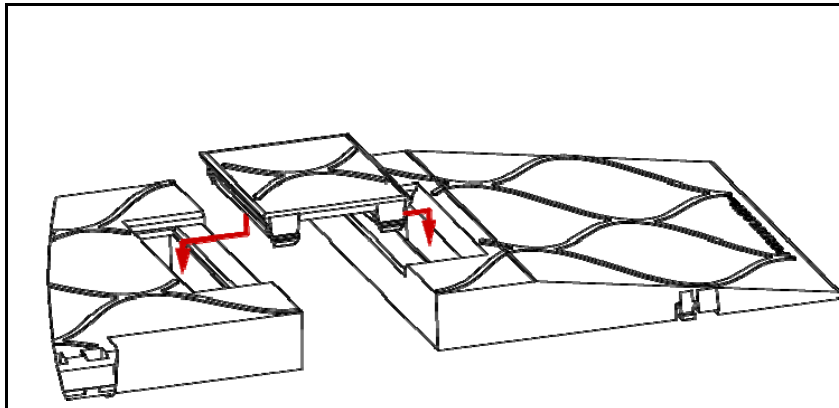

Figure 7. Short Edge Ramp with Adaptor
2. To install ramp edges with adaptors, align the flooring and ramp edge. Press on the adaptor to lock it onto the ramp edge and flooring (see Figures 7 & 8).